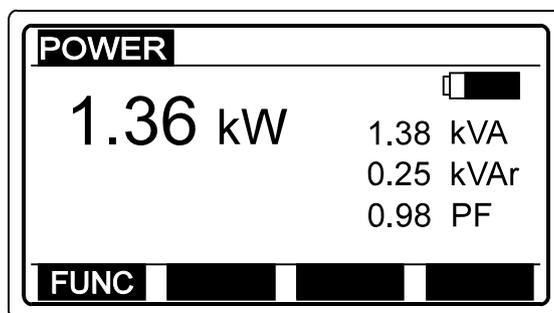

Fig. 91. Power measurement result
- ◆ Connect 1A/1mA test clamp to Eurotest 61557; see the figure 91. (only if current harmonics are to be measured).
- ◆ Connect appropriate test cable (Universal test cable or Plug commander) to Eurotest 61557; see the figure 91. (only if voltage harmonics are to be measured).